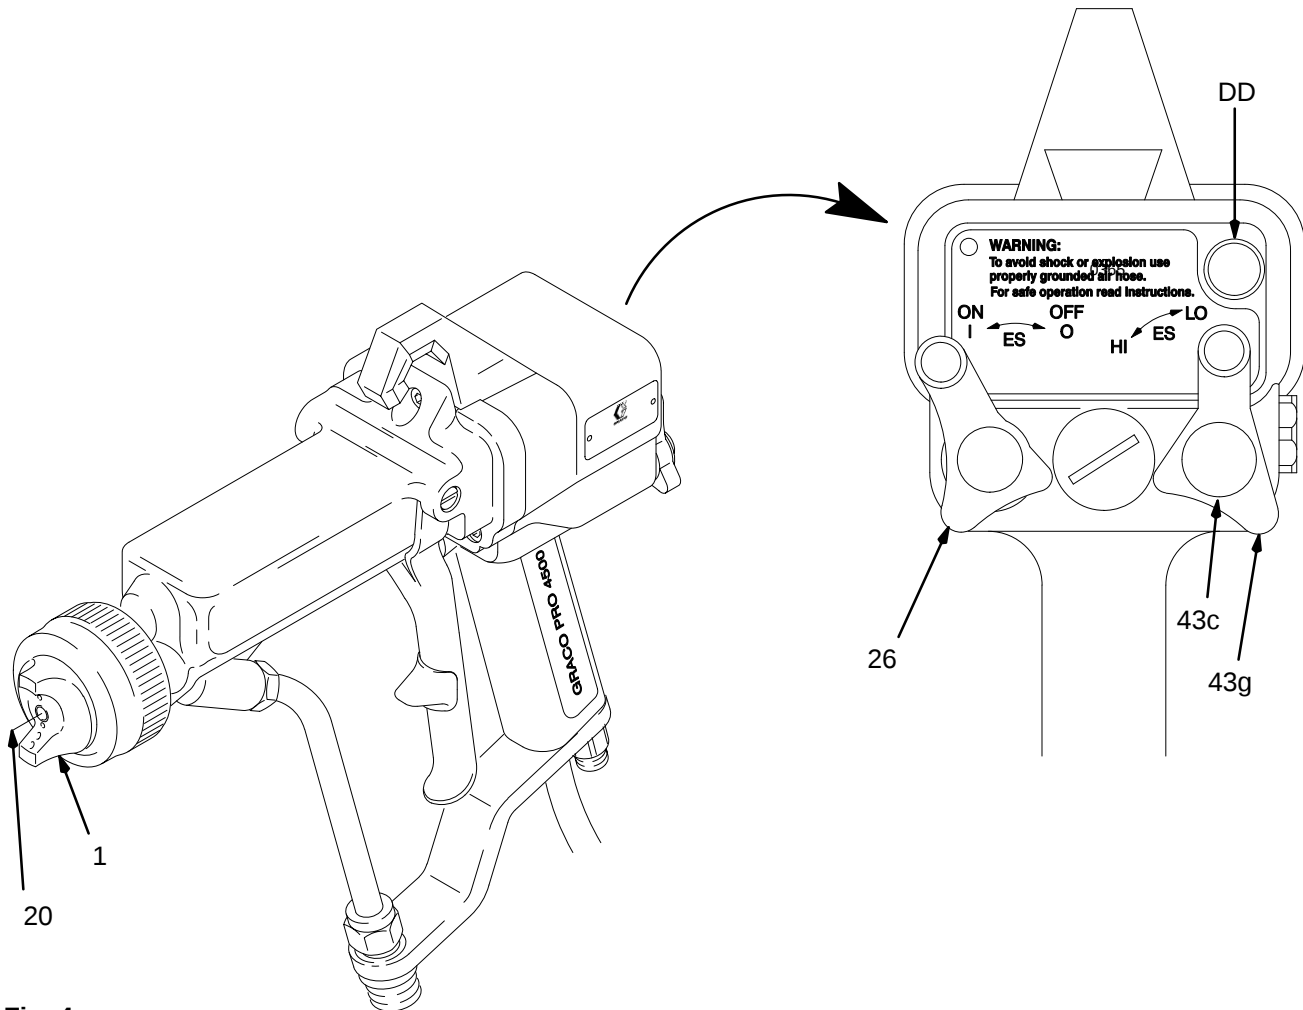

Fig. 4
2. Turn the ES ON-OFF Lever to OFF. See Fig. 4, page 12, for the location of the lever.
4. Make sure the air hose (R) is connected and the hose ground wire is connected to a true earth ground.
5. Measure the resistance between the gun handle (BB) and a true earth ground (CC).
- a. *If using a black or grey air hose, use a megohmmeter (AA) to measure the resistance. Use an applied voltage of 500 minimum to 1000 volts maximum. The resistance should not exceed 2 megohms.*